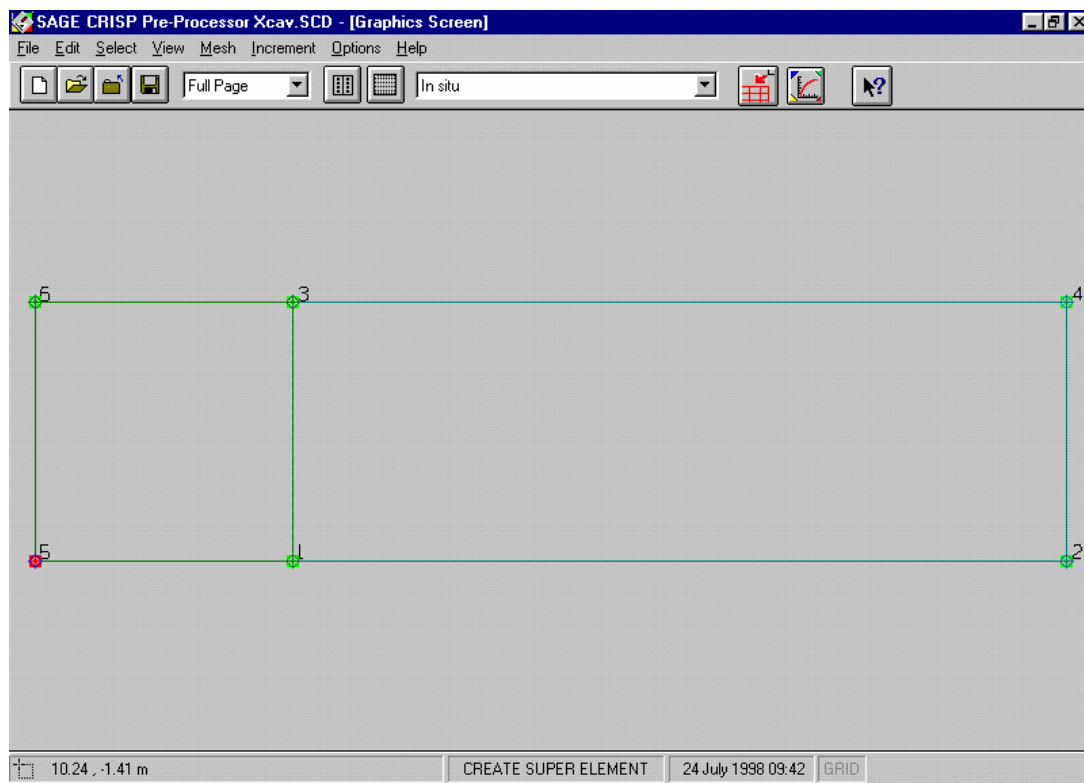

Figure 5-7: Structured Super Mesh
Join the nodes together to form the Super Mesh depicted in Figure 5-7.
Step 9 When you have finished, you should have two four sided Super Elements in a mesh identical to that shown in Figure 5-7.